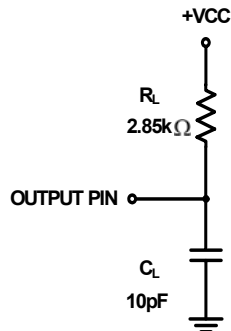

FIGURE 4. EQUIVALENT LOAD CIRCUIT
| t _{dDO} | Delay Time, DCLOCK↓ to DOUT Data Valid | See test circuits; Figure 4 | | 36 | 150 | ns |
| t _{DIS} | Delay Time, $\overline{CS}/\text{SHDN}$ ↑ to DOUT Hi-Z | See test circuits; Figure 4 (Note 11) | | | 50 | ns |
| t _{EN} | Delay Time, DCLOCK↓ to DOUT Enable | See test circuits; Figure 4 | | 21 | 100 | ns |
| t_f | DOUT Fall Time | See test circuits; Figure 4 | | 1 | 100 | ns |
| t_R | DOUT Rise Time | See test circuits; Figure 4 | | 1 | 100 | ns |
11. During characterization, t_{DIS} is measured from the release point with a 10pF load (see Figure 4) and the equivalent timing using the ADS1286 loading ($3\text{k}\Omega$, 100pF) is calculated.